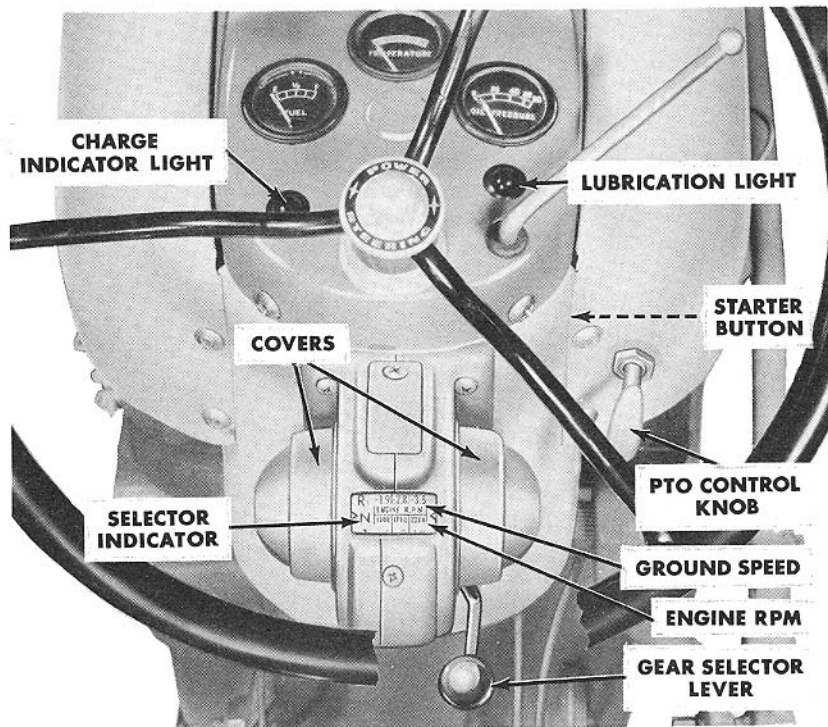

Figure 3
The Select-O-Speed Transmission shift lever is located on the speed selector housing which is directly under the steering wheel. As the lever is shifted, a selector indicator, Figure 3, shows the gear selected.
On Select-O-Speed Transmission equipped tractors, the safety type starter button, Figure 3, is located on the underside of the hood panel. As a safety feature, the starter button will not start the engine until the shift lever is placed in the park (P) position.
The Select-O-Speed Transmission is pressure lubricated. A lubrication light, Figure 3, indicates low oil pressure when lit.
On tractors equipped with the Select-O-Speed Transmission the P.T.O. control knob is conveniently located in front of the operator as shown in Figure 3. Slowly pulling the knob outward permits gradual engagement of the P.T.O. shaft to ease into loads.